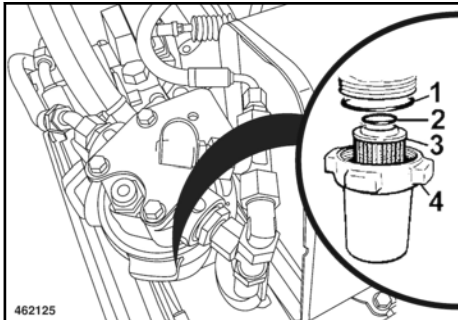

Fig. 162
Remove filter bowl (4) ↗ Fig. 162 with filter element (3).